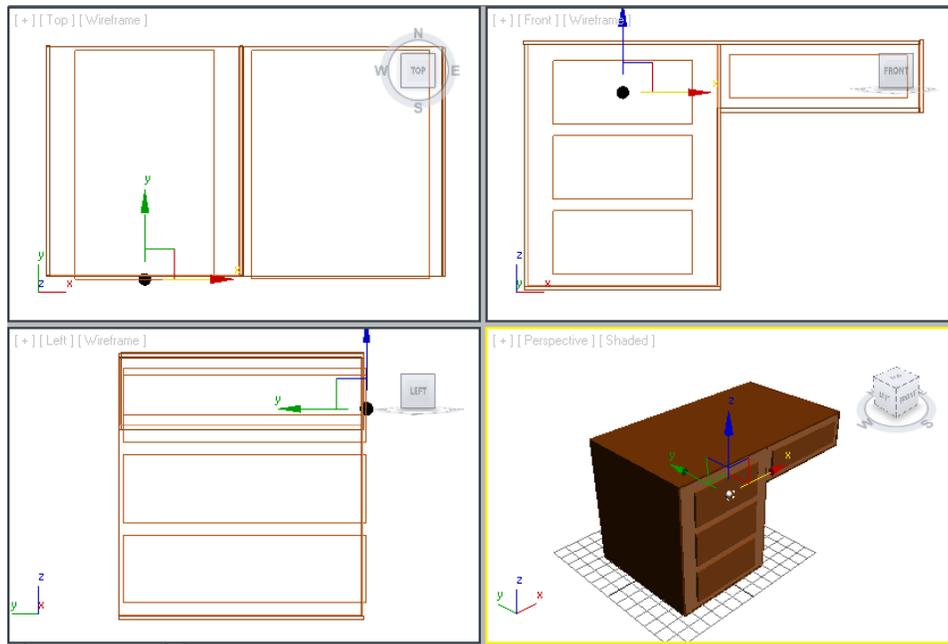

Figure 2-53 Alignment of knob001 with drawer001
4. Align *knob001* with *drawer001* in all viewports using the **Select and Move** tool, as shown in Figure 2-53.